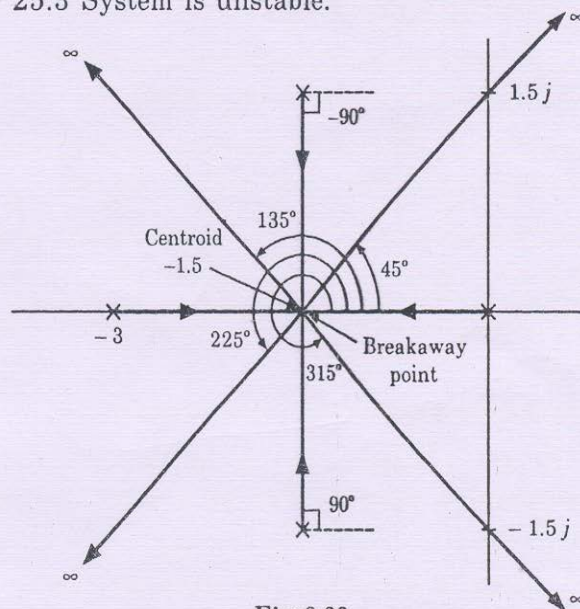

Fig 8.29
Step 8: The complete Root Locus is shown in the Fig. 8.29. For $25.3 > K > 0$. System is absolutely Stable.